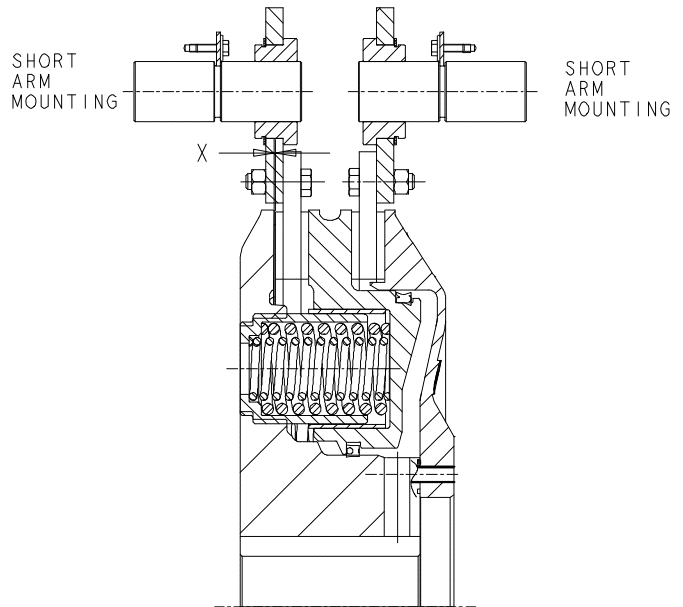

Figure 13
- 3.1.1 Inspect friction material for signs of wear, Refer to Figure 13 and Table 4 for wear limits. Repair If limits are achieved.
- 3.2.1 Refer to Figure 13 and and measure the "X" dimension for clearance. Refer to Table 4 for Wear gap limits. If the Maximum gap is achieved refer to Maintenance section for repair instructions.